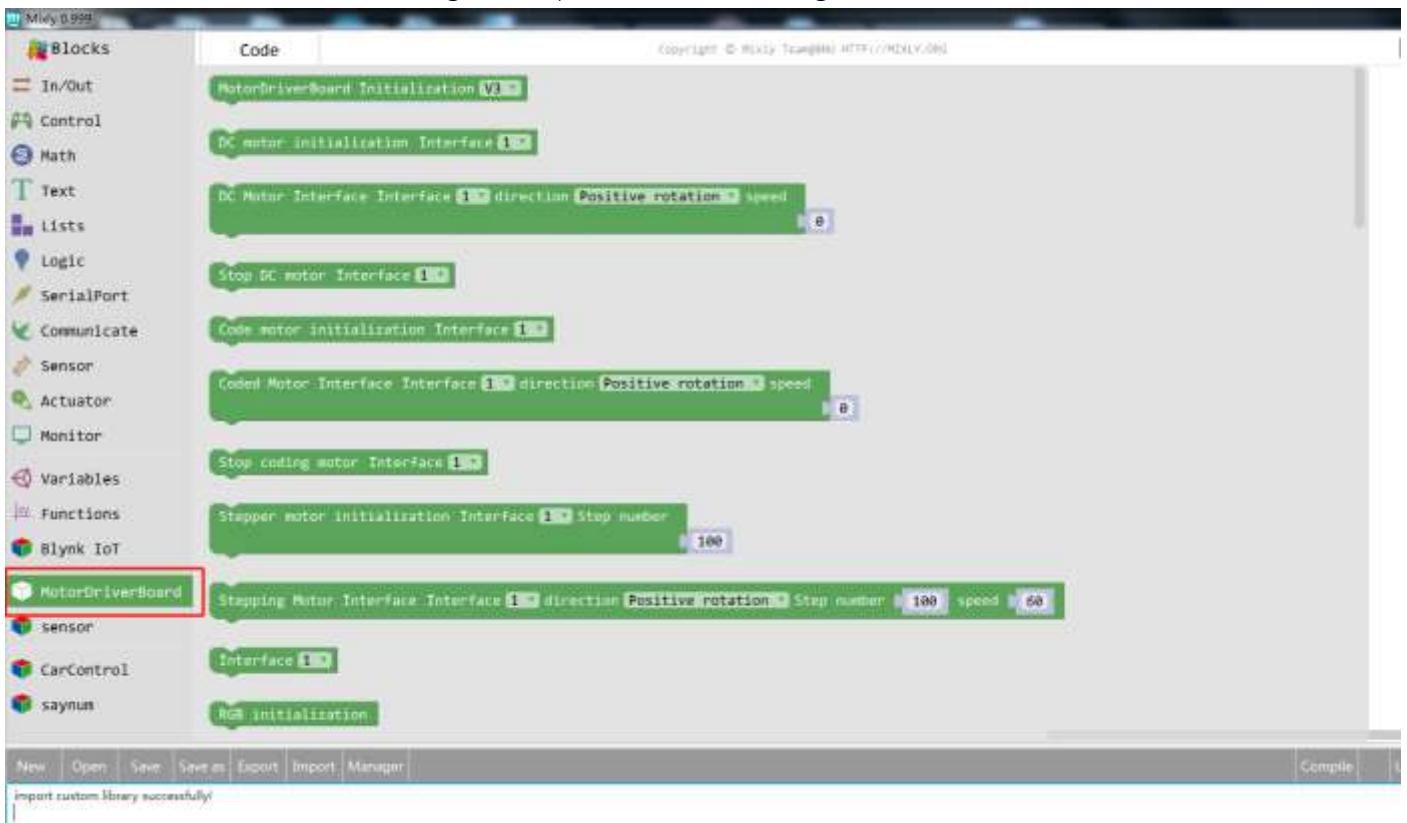

Figure 2-1-4
- 5) Click "motordriverboard" to display the figure shaped programming block of motordriverboard building block, as shown in figure 2-1-4.